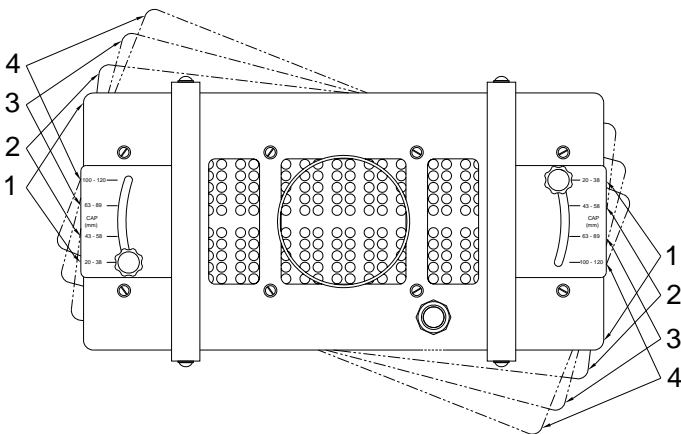

Figure 23
In many instances, multiple cap sizes will be run on the same power supply. The “1” Sealing Head and Pivot Kit allows for moving the sealing head to accommodate various size caps without having to exchange the sealing head. The “1” sealing head can be pivoted in approximately seven (7) degree increments to four different positions (**Figure 23**).